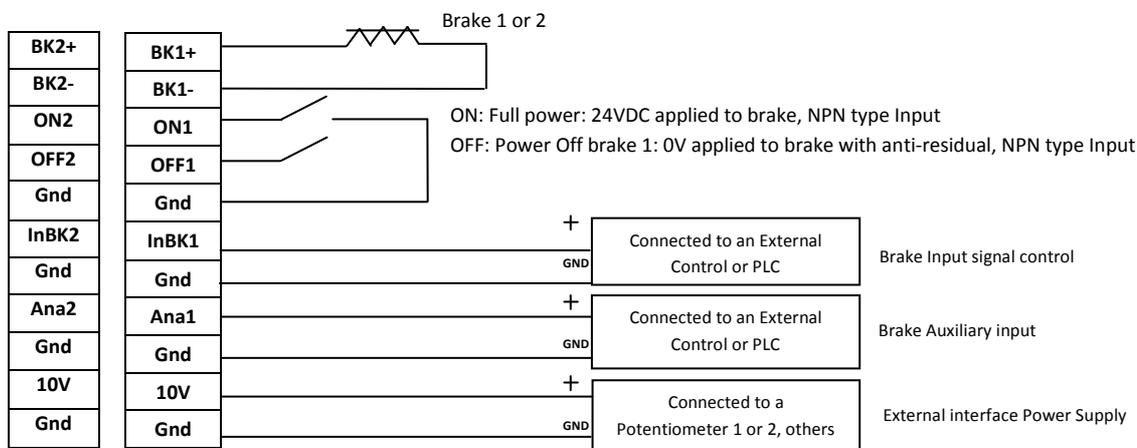
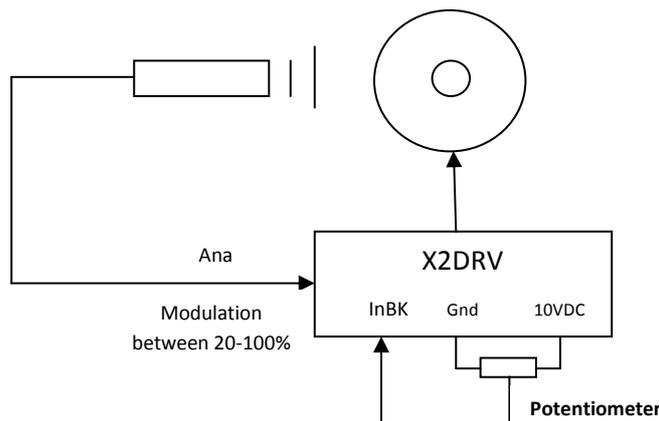

Figure 2: x2DRV wiring – one or two brakes
Figure 5: Typical Open Loop application with diameter compensation
2. Connect wiring from brake magnets to Pin BK1 and/or BK2 of the x2DRV as shown figure 2
8. (Optional): To get an Open Loop control use the external interface power supply (10V DC) as shown figure 2 to supply a potentiometer or others as describe figure 5.
11. Double check all wiring connections per figure 2 and insure all terminals are tight